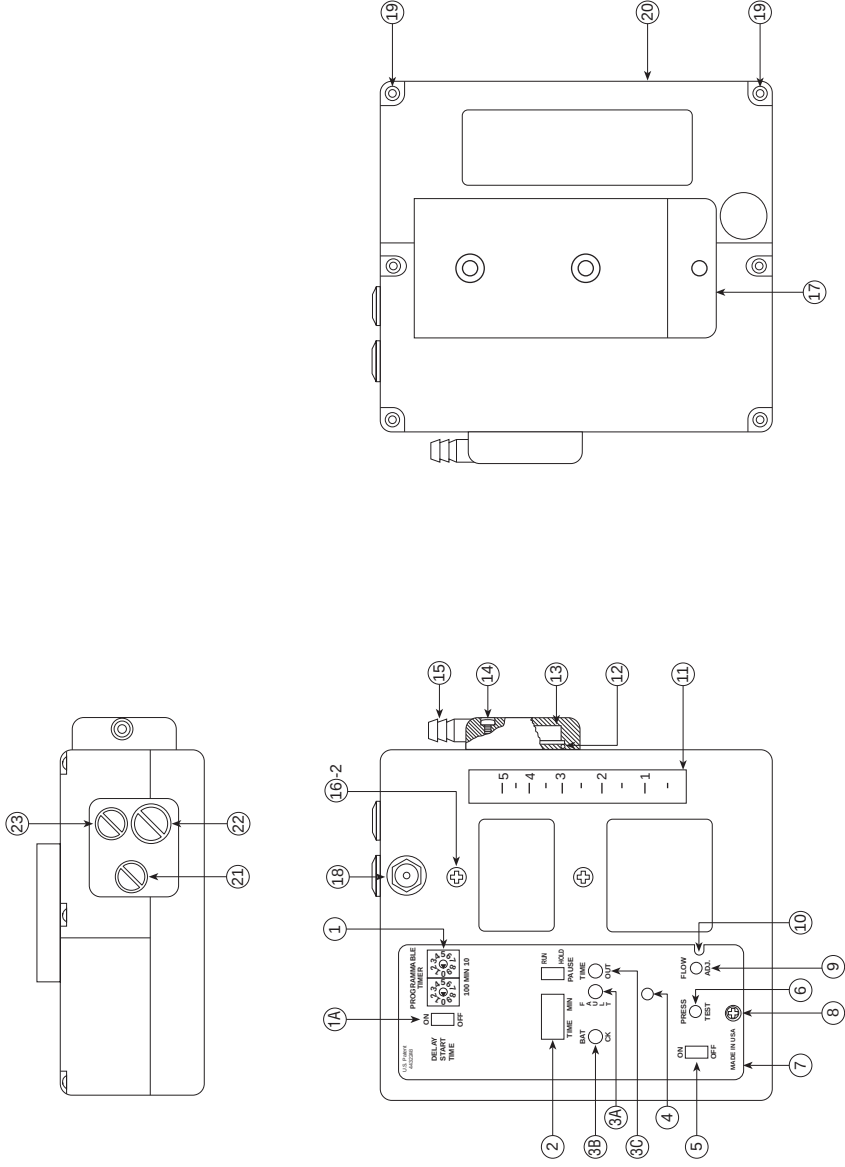

Figure 1
Refer to Figure 1. Leakage test the system by removing the screw (22) and installing the discharge air boss. Block the pump inlet boss and apply 20" of suction to the pressure fitting. No leakage should be observed. An alternate procedure to pick up severe leakage is to turn on the pump, block the inlet boss, and then observe that the pump cuts out on a flow fault.
Refer to Figure 1 and Table 1. The constant flow feature of the sampler utilizes load sensing of the pump motor which, through a feedback loop, readjusts the motor speed to maintain constant flow. High Flow Calibration is accomplished by checking and adjusting the flow and Back Pressure Compensation System (BCS) at two points: 1.5 LPM and 4 LPM. This insures that the calibration is accurate at all ranges in the high flow mode.
Refer to Figure 1 and Table 1.